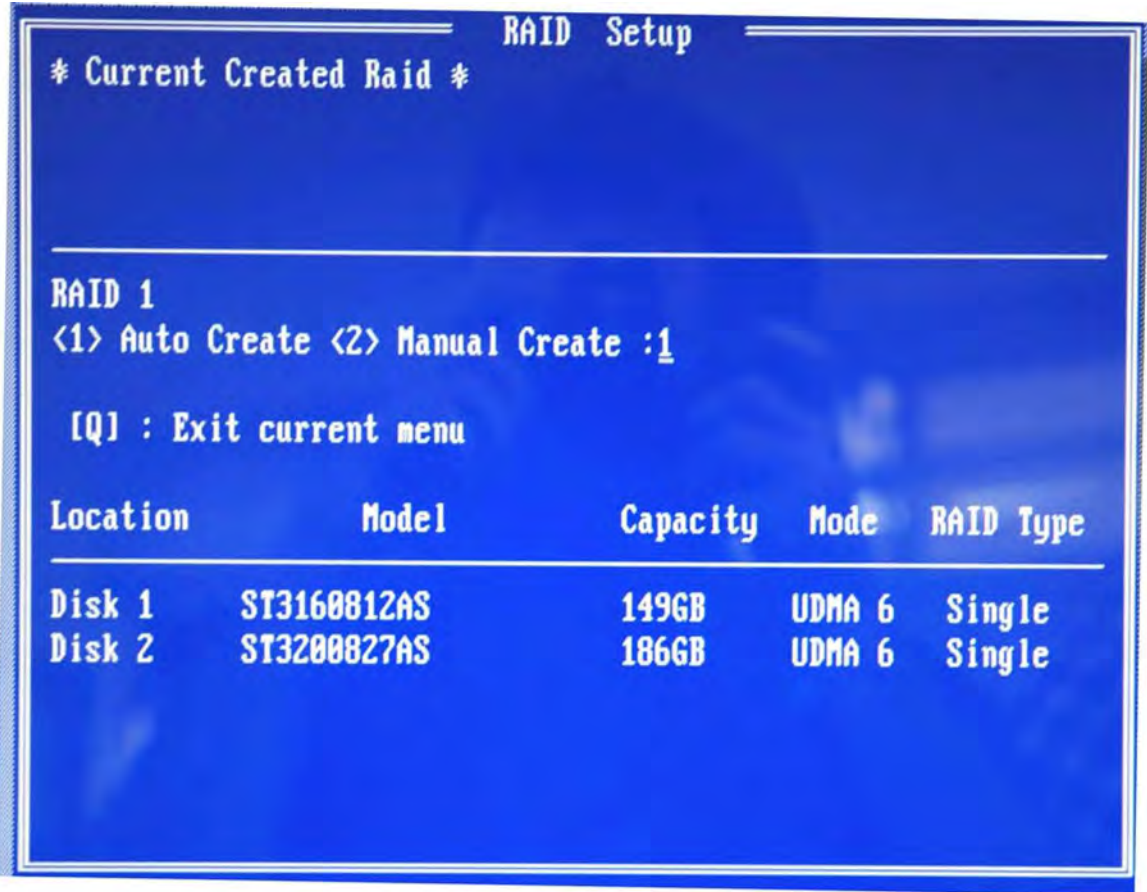

Figure D-7: Select "Auto"
Step 6: You will then be prompted to "Auto Create" or "Manual Create" (see Figure D-7).